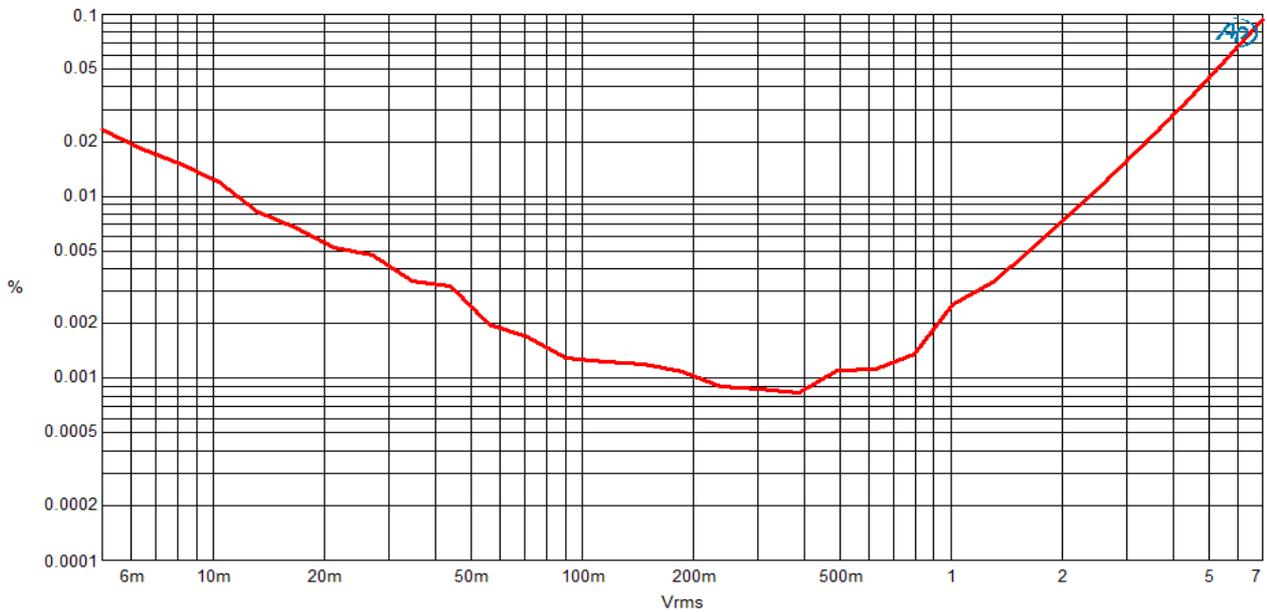

Fig.4 THD vs. level at 1kHz and 10k load
2. Harmonic distortion as a function of level. Measurements have been performed at 1kHz, with both 10k and 100k load. Results as shown in figures 4 and 5.